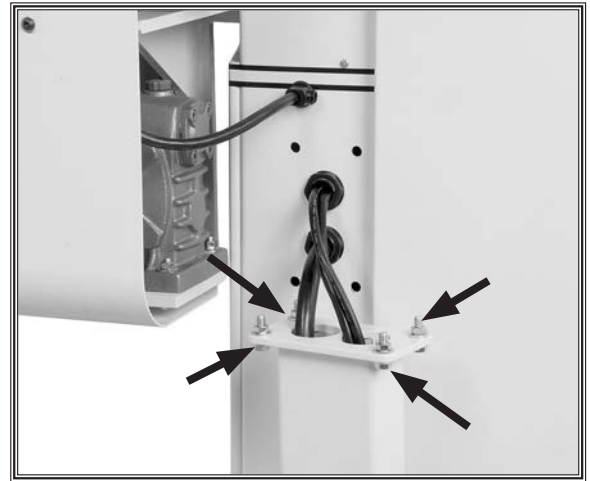

Figure 10. Control panel mounting bolts.
7. Remove the bolts, flat washers, and hex nuts from the control panel support arm, as shown in **Figure 10**.
12. Place the handwheel over the shaft shown in **Figure 10** and tighten the set screw in the handwheel hub.